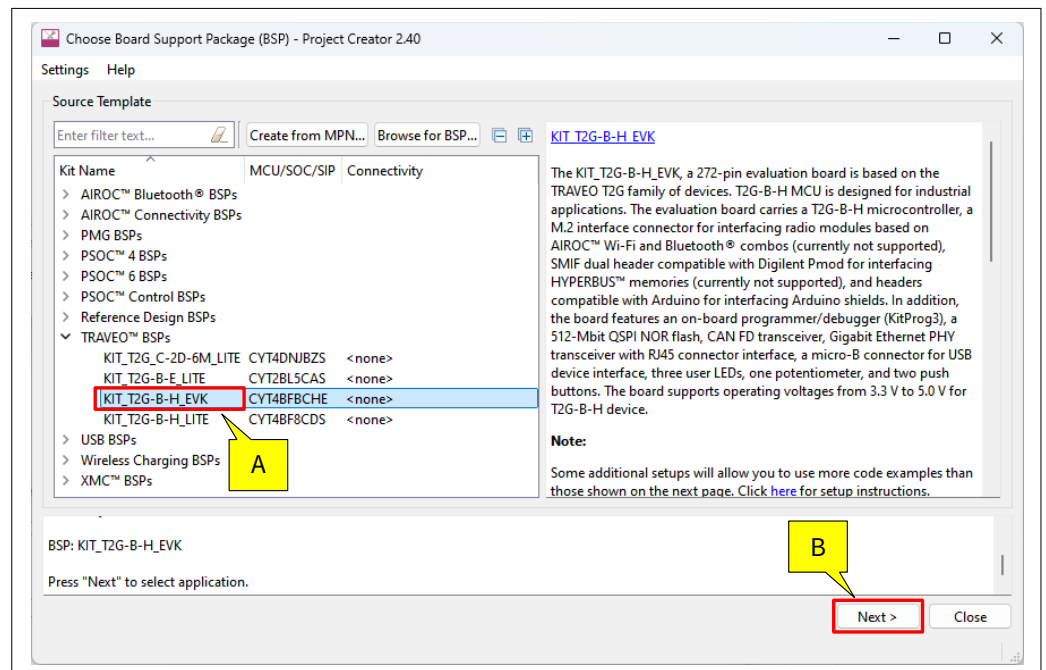

Figure 10 Choose the target hardware
- In the **Choose Board Support Package (BSP)** dialog, choose the **Kit Name** that you have. The steps that follow use **KIT_T2G-B-H_EVK**. See Figure 10 for help with this step